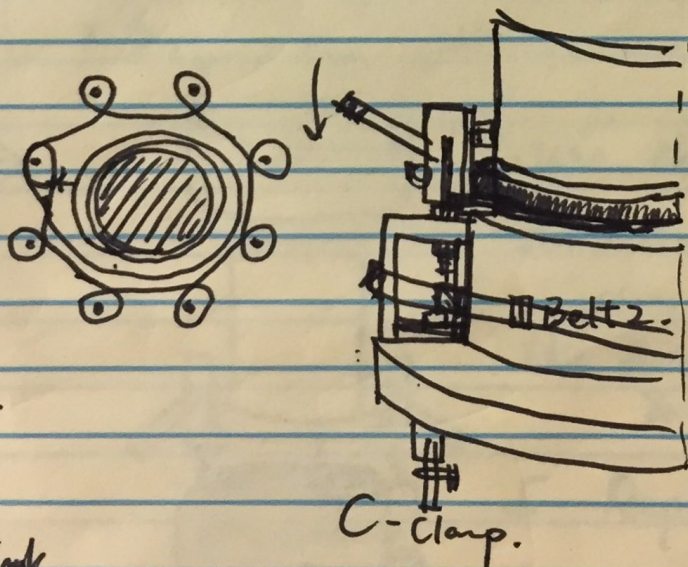

Fig. 2.
4. Wrap ^a the belt around the tank and around each rod (Fig. 2)